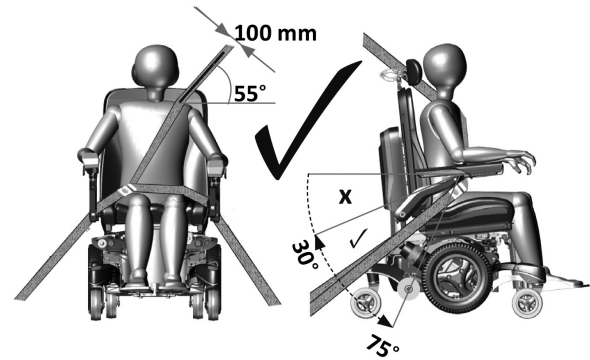
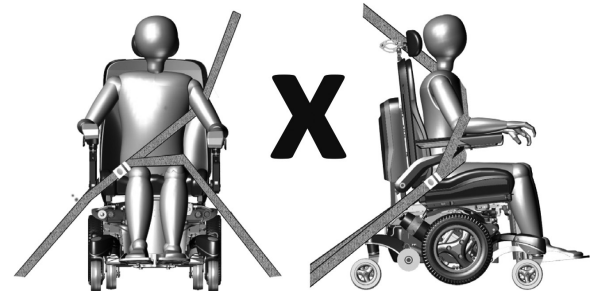

Figure 5.5 – correct positioning of three-point occupant restraint
Figure 5.6 – incorrect positioning of three-point occupant restraint
- Restraints should be mounted to the appropriate vehicle pillar and should not be held away from the body by powerchair components such as armrest or wheels (Figure 5.6)
- A pelvic belt should be worn low across the front of the pelvis so that the pelvic belt restraint angle is between 30° - 75° relative to the horizontal (Figure 5.5)
- A steeper (greater) angle within the preferred zone is desirable (Figure 5.5)
- The upper torso restraint belt must fit over the shoulder and across the chest as illustrated (Figure 5.5). Do not fit restraint belt as shown in Figure 5.6